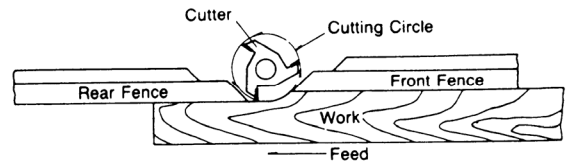

Figure 11
3. The rear fence should be advanced to contact the work as shown in Figure 11. The rear fence will then be in line with the cutting circle.